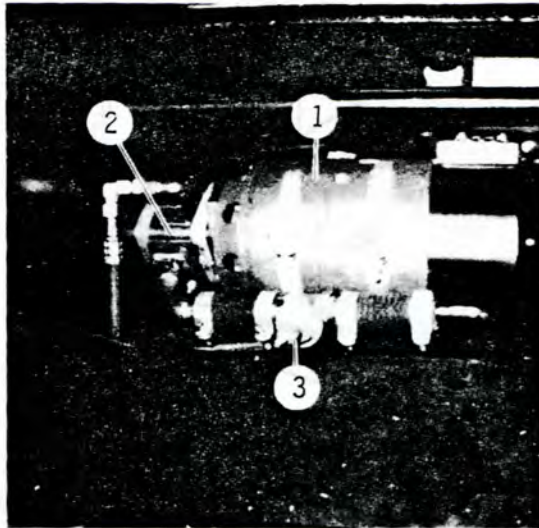

Fig. 27 Hydraulic Assembly
- 4.1 Before removal of either the hydraulic pump motor (1 Fig. 27) or the hydraulic pump (2 Fig. 27) the stop valve (3 Fig. 27) between the assembly and the tank must be shut.
BEFORE PUTTING THE TRUCK BACK INTO SERVICE, MAKE SURE THAT THE STOP VALVE (3 FIG. 27) IS OPEN.